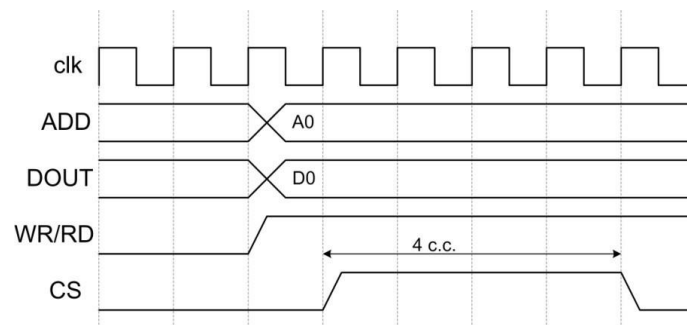

Figure 6: CPU Transaction Example
When the CPU issues a transaction, it first sets the appropriate address on the address bus and sets the read/write indicator to the correct value; if a read is being issued, the WR/RD signal is low (0), whereas if a write is issued, the signal is high (1). Finally, if a write is performed, the appropriate data is also set on the DOUT port. Once all transaction signals are stable, the strobe CS is asserted, and stays asserted for 4 clock cycles. Figure 6 below shows an example of a write request.